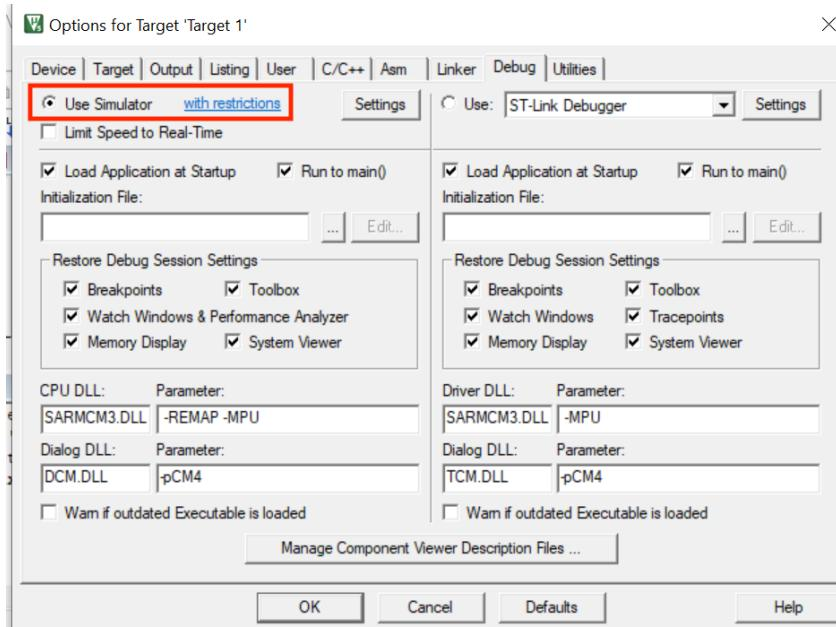

Figure 11
**Note:** If you don't have the board, you can still simulate your program. Select **Use Simulator** option under the **Debug** tab and skip to Step 6. (see Figure 11).